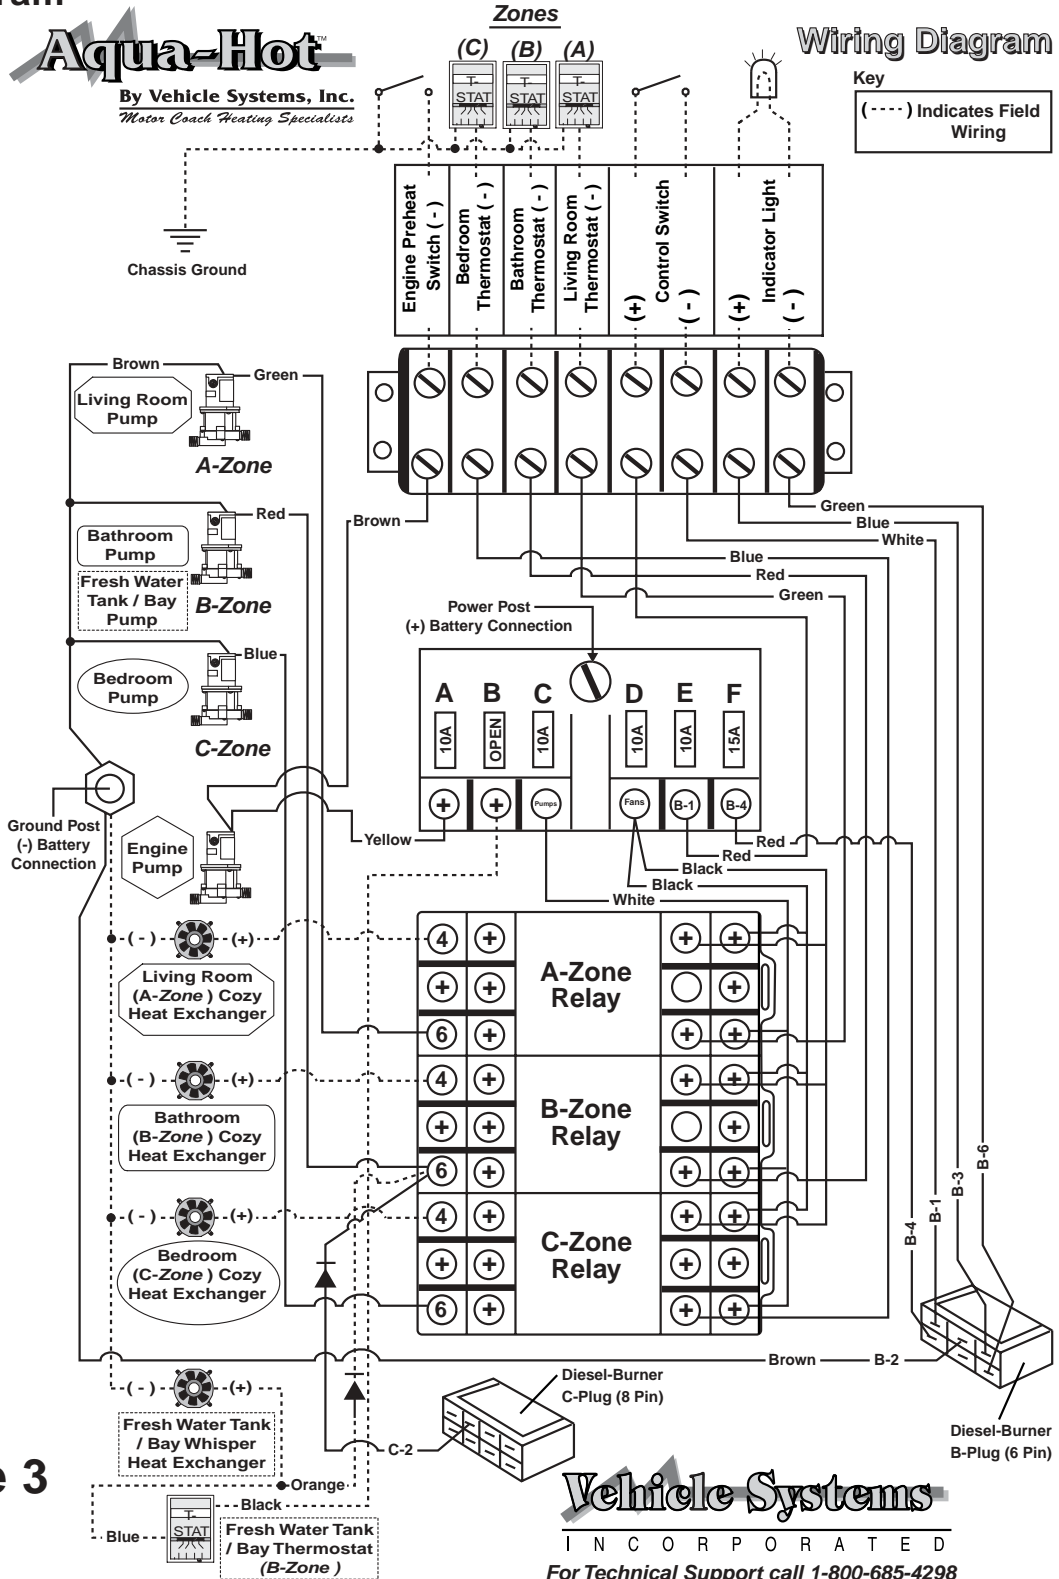

Figure 3
**NOTE:** It may be necessary to disconnect the two RED wires, which are connected to pin #6 of the B-Zone relay, when rotating the head beyond 90 degrees, see Figure 3.